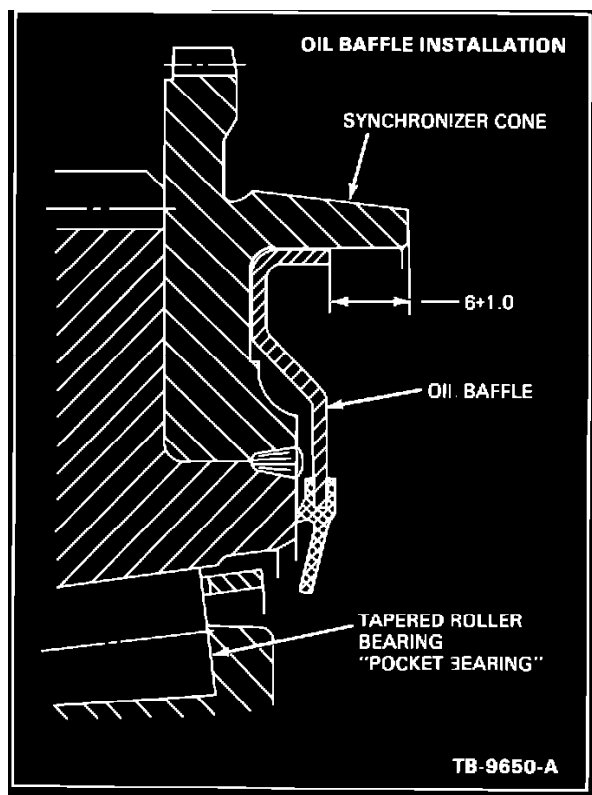

FIGURE 17
3. Be sure the oil baffle lip is recessed 0.24" (6 mm) below the synchronizer cone edge, Figure 17.
5. Check to see that the three (3) lubrication holes in the input shaft are free of any obstructions.